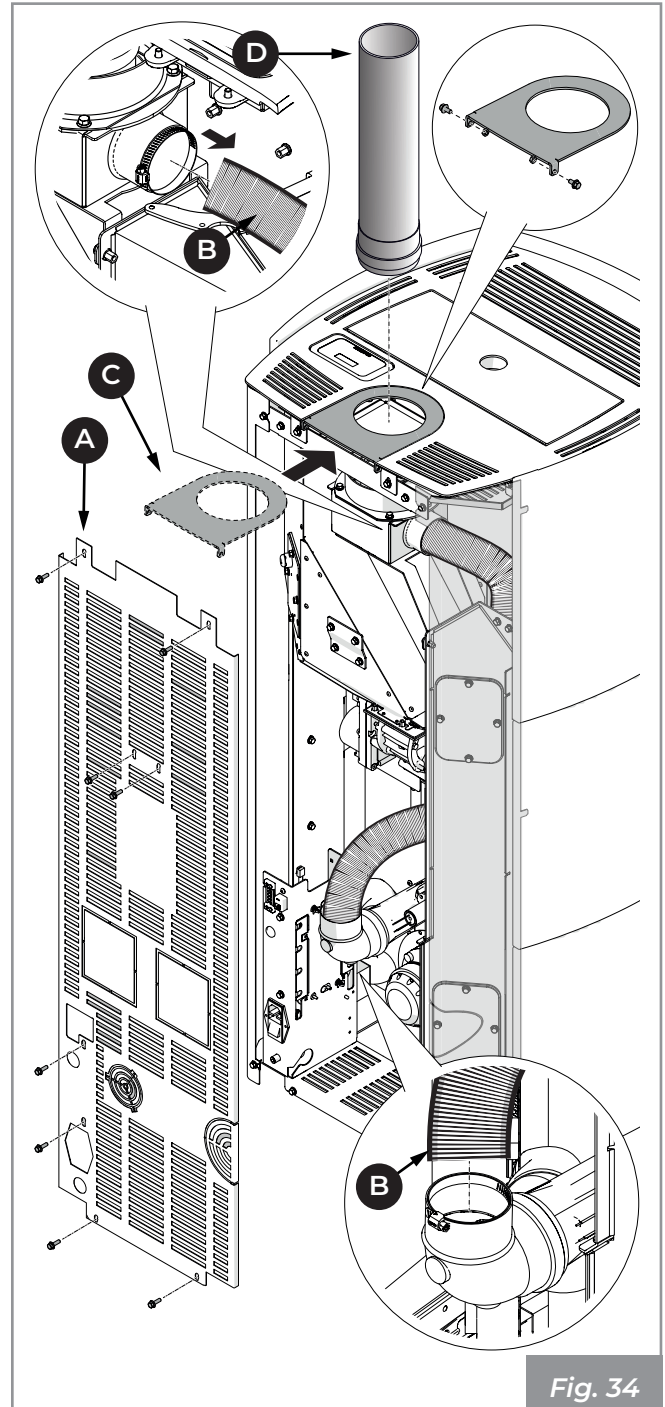

Fig. 34
- Connect the flue gas pipe **(D)** (**Fig. 34**)